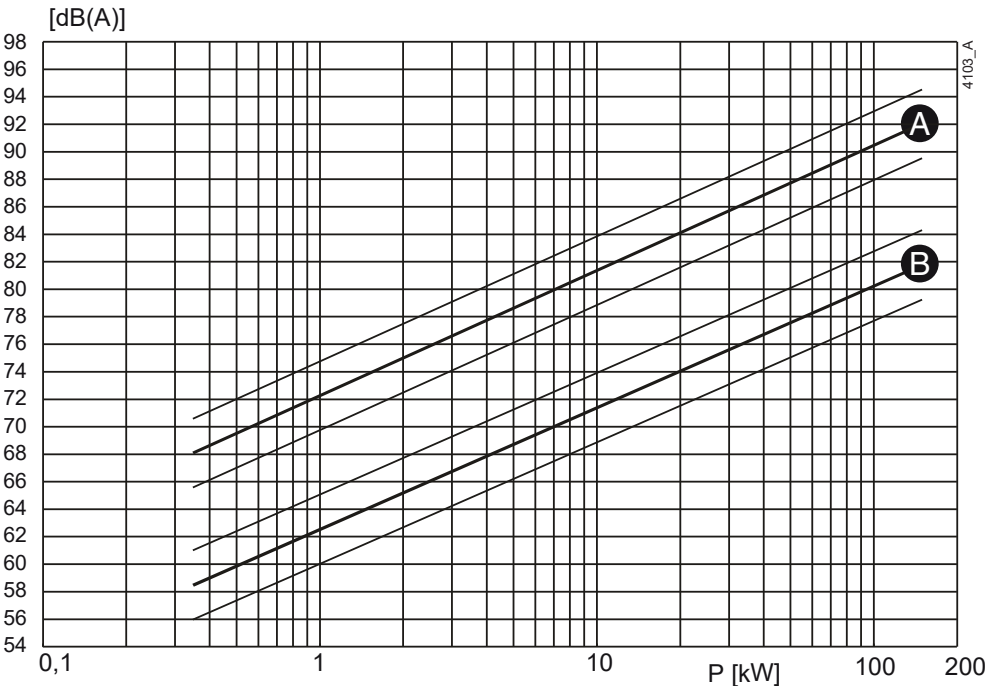
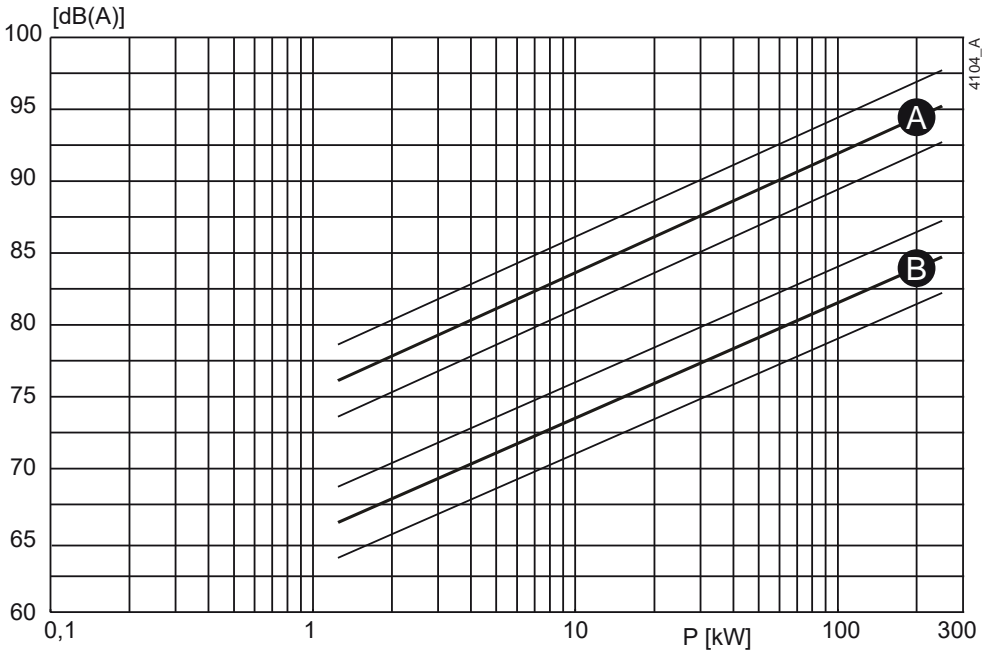

Figure 24: Noise level as function of pump power [kW] at 1450 min^{-1}
Figure 25: Noise level as function of pump power [kW] at 2900 min^{-1}
- 1 Determine the noise level (L1) of the pump, see figure 24 or figure 25.